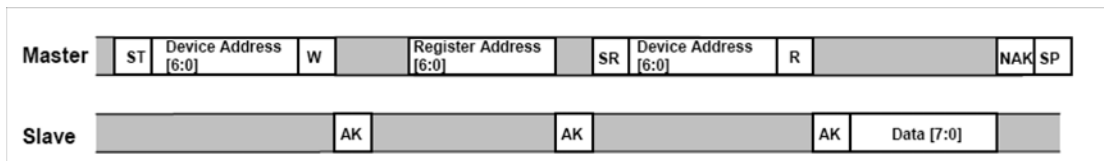

Figure 7. Single Byte Read - The Master is reading one address from the MMA7450L
The MMA7450L has an 8-bit ADC that can sample, convert and return sensor data on request. The transmission of an 8-bit command begins on the falling edge of SCL. After the eight clock cycles are used to send the command, note that the data returned is sent with the MSB first once the data is received. Figure 7 shows the timing diagram for the accelerometer 8-bit I2C read operation. The Master (or MCU) transmits a start condition (S) to the MMA7450L, slave address (\$1D), with the R/W bit set to "0" for a write, and the